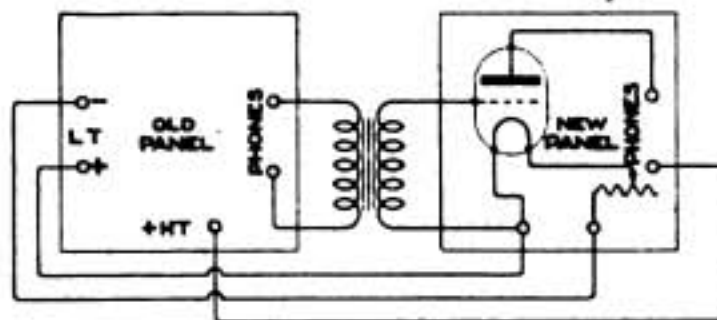

Fig. 4.
(1) See diagram Fig. 4. (2) If the valves are of such widely different types we should recommend separate H.T. batteries and filament resistance, although the second H.T. battery could very likely be dispensed with. (3) The H.R. telephones will be quite suitable.